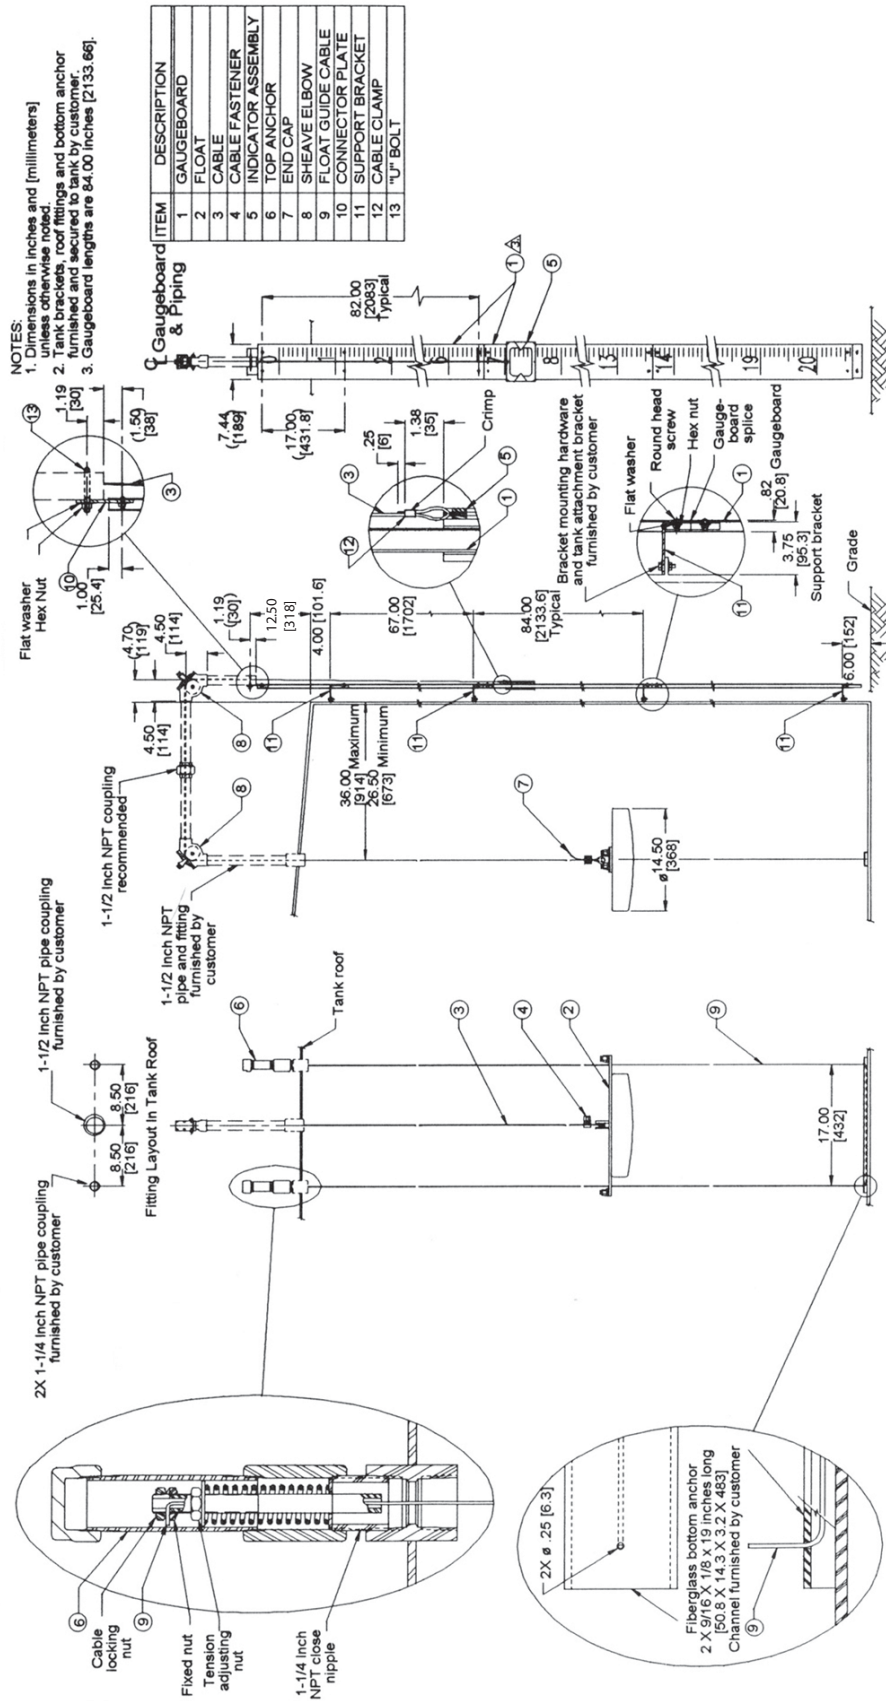

Figure 18: Fiberglass Cone Roof Tank Installation
Refer to Table 2 on page 4. See Figure 18 on page 38.
3. Lay out the coupling positions as shown in Figure 18. The float diameter is 14.50 inches [368 mm]. The guide cable couplings are centered at 8.50 inches [216 mm] each side of the float center. The indicator cable coupling is centered on a 17.00 inch [432 mm] diameter.
10. See Figure 18 for suggested bottom anchor configuration. When the position has been checked, install the bottom anchor into place.
13. Install the gaugeboard support brackets into position. See Figure 18 and notice the relative position of the top bracket. All other support brackets are seven feet [2.436 meters] below the previous bracket, except for the last one which is a minimum of six inches [152 mm] above the grade line.
3. Fasten the bottom anchor to the guide cables (see Figure 18 on page 38) and lower the anchor slowly through the inspection hatch into the tank.